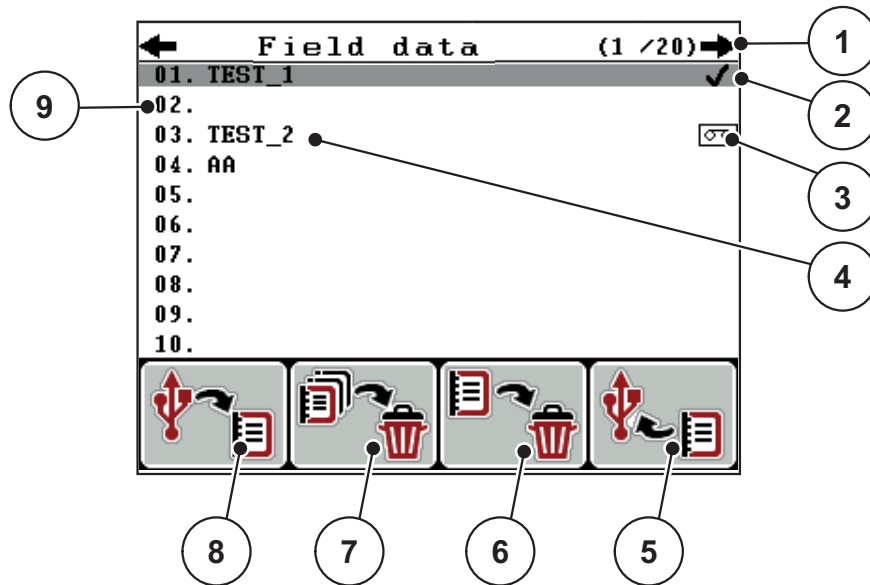

Figure 4.22: Field data menu
2. Press **F1** function key (see figure 4.22).
2. Press **F4** function key (see figure 4.22).
3. Press the **F3** function key below the **Delete** icon (see figure 4.22).
2. Press the **F2** function key below the **Delete all** icon (see figure 4.22).